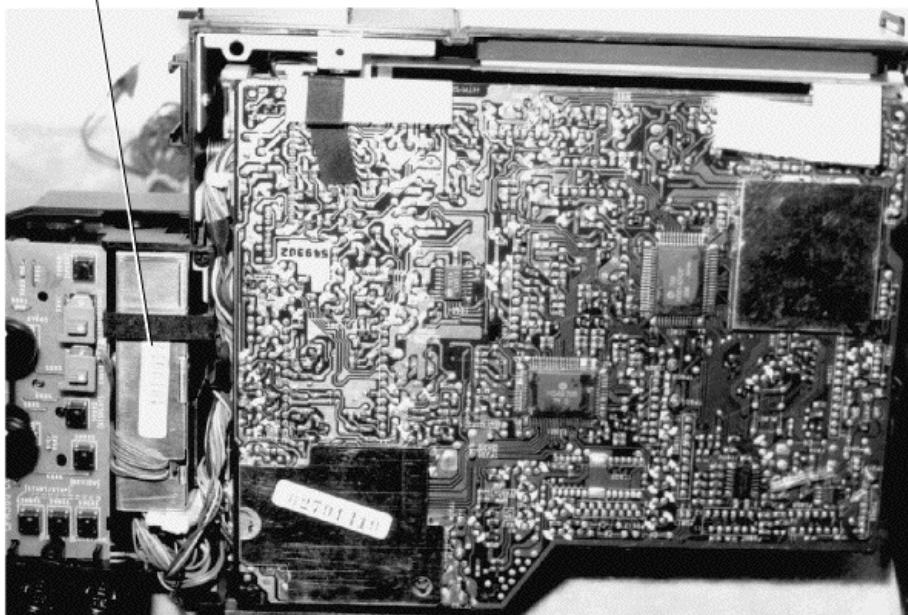

FIGURE 39-12 The CCD module in a VHS camcorder.
The process-section adjustments consist of AGC, brightness or luminance, white-balance, auto white-balance, color, and audio-gain adjustments. Within these sections are several other adjustments. The real purpose is to set the brightness of the picture if the picture becomes extremely bright or dim. Set the white balance of the picture so that the color reproduction does not deteriorate. Set the amplitude level of the burst signal so that the color does not become light or dense. Suppress the level differences between the R, G, and B signals in standard illuminations because of color reproduction of poor white in the picture. Set the chroma level so that the color reproduction does not deteriorate. Be sure and make the brightness (Y) adjustment before adjusting the recording system (Fig. 39-12).